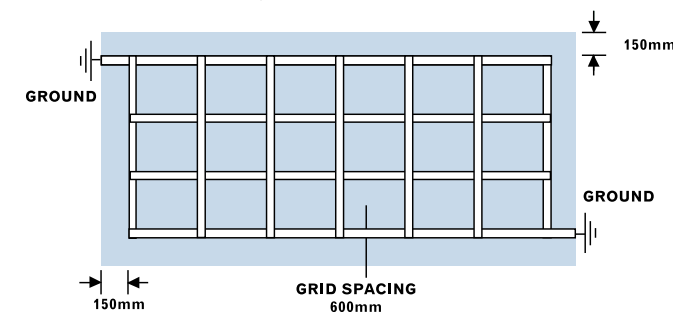

Figure 2 Earth strip layout
- ▶ The strips should be laid to form 600mm square grid across the floor, the perimeter strips being 150mm from the wall (Fig 2).